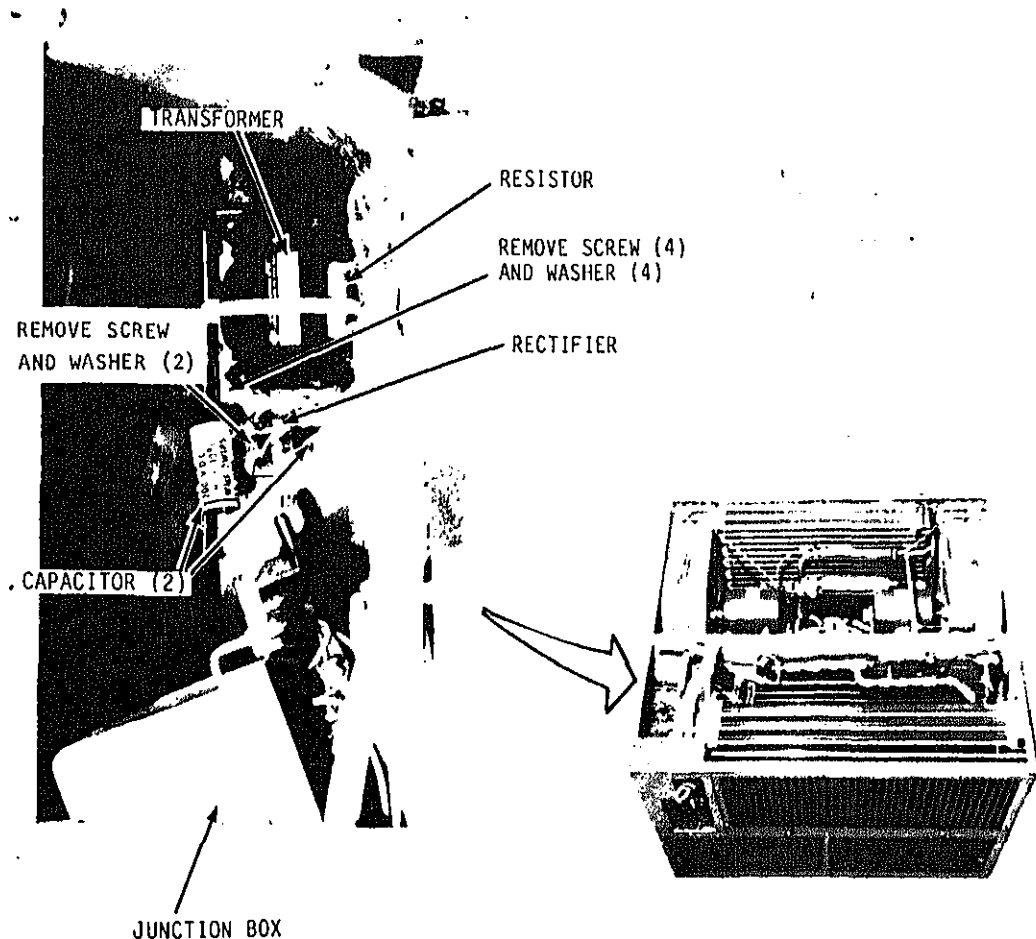

Figure 4-17. Transformer, resistor, rectifier and capacitors, removal and installation
(2) Refer to figure 4-17 and remove the transformer and resistor. Remove resistor from transformer if it is faulty when tested as follows.
- 1) Refer to figure 4-17 and in-
- (2) Refer to figure 4-17 and de-
(1) Refer to figure 4-17 and install rectifier.